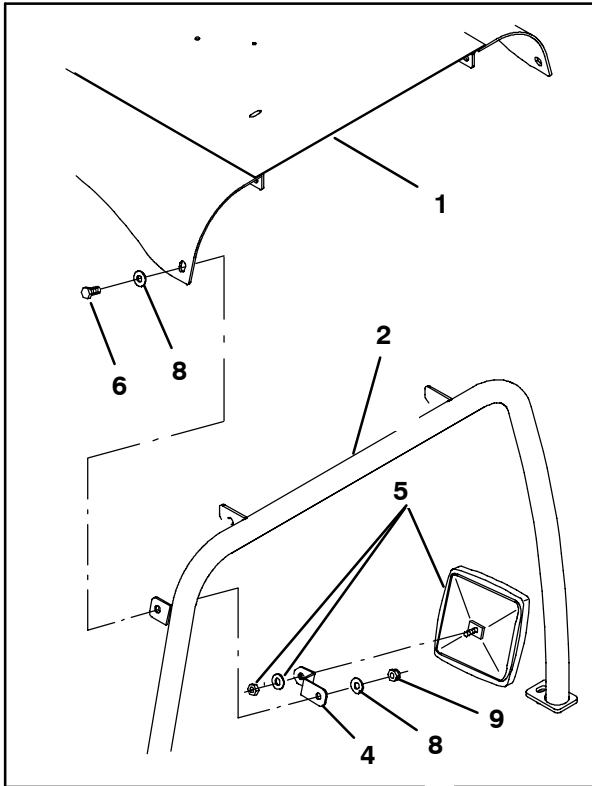

FIG. 2
- Use a hex screw (6), two flat washers (8), and a lock nut (9) to install the mirror bracket (4) and left guard leg (2) onto the overhead guard top (1). Refer to Fig. 2.
- Use three hex screws (6), six flat washers (8), and three lock nuts (9) to install the rest of the rear of left guard leg (2) onto the overhead guard top (1). Refer to Fig. 2.
- Use the hardware included with the mirror (5) to install the mirror onto the mirror bracket (4). Refer to Fig. 2.